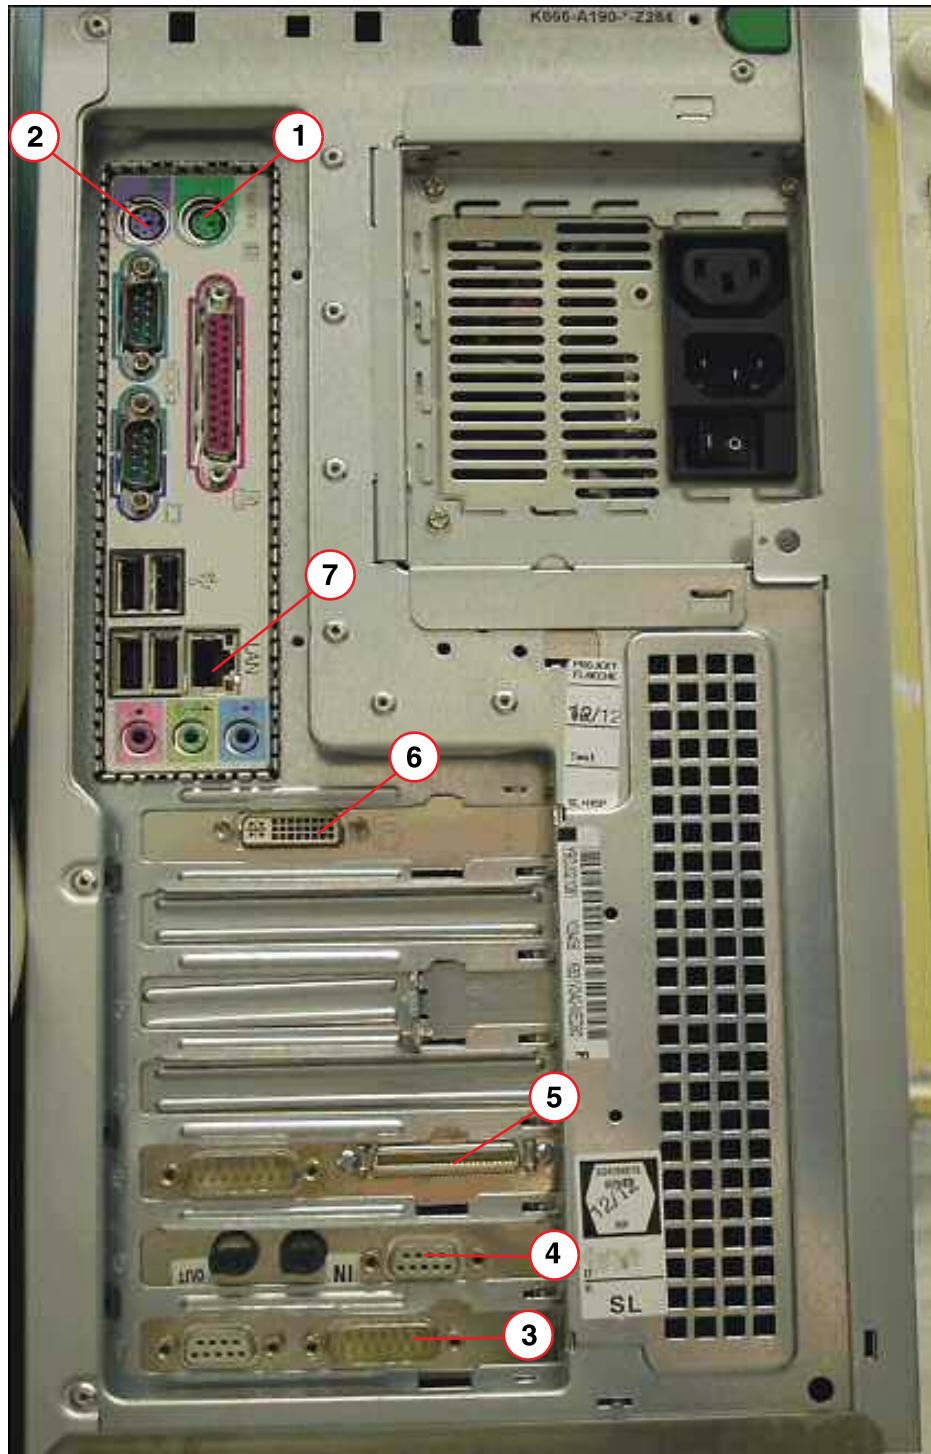

Fig. 58: Rear side of the imaging system PC (cabling shown as an example)
- Connect the mouse to the right connection with the **mouse** symbol \(1/Fig. 58 / p. 53\).
- Connect the imaging system PC to the network via an unshielded twisted pair lead \(7/Fig. 58 / p. 53\).
- Connect the keyboard cable to the left connection with the **keyboard** symbol \(2/Fig. 58 / p. 53\) (next to the mouse connection) and secure the cable via cable ties.